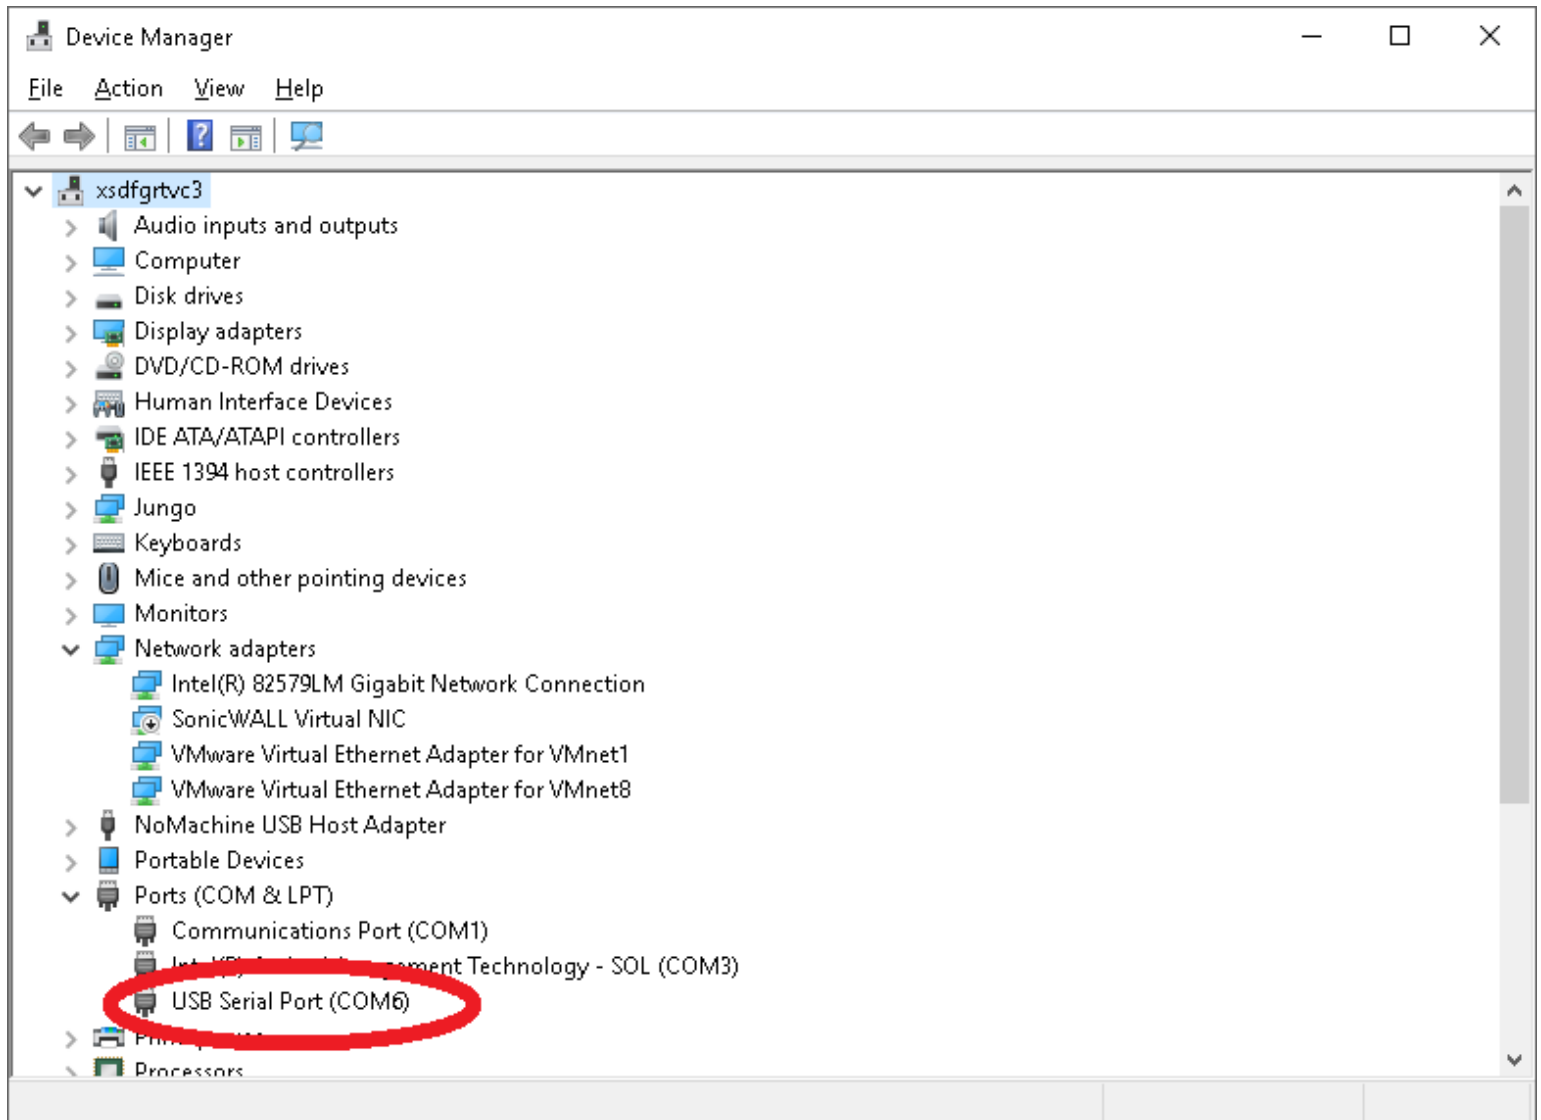
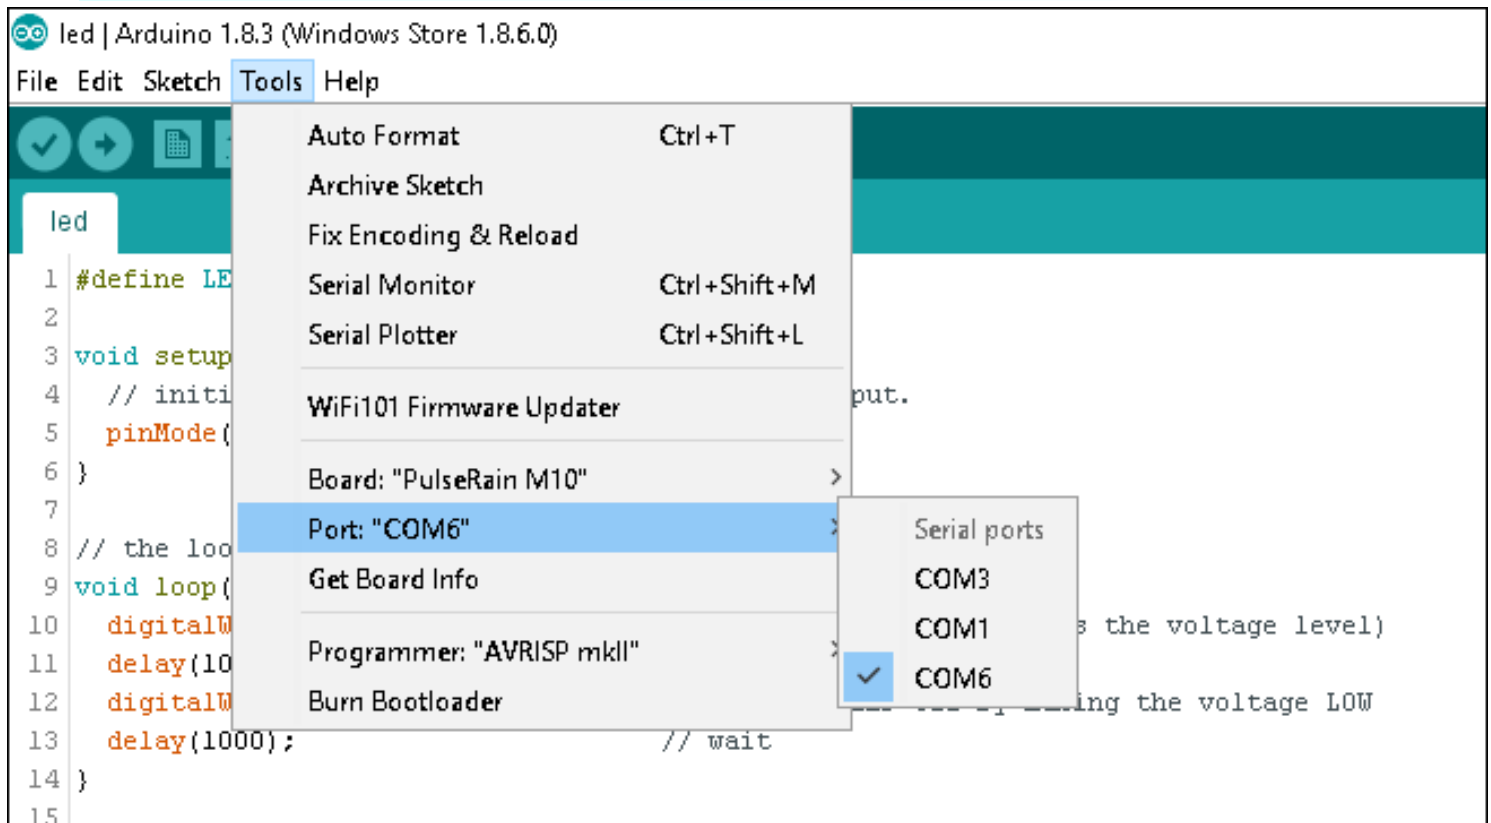

Figure 2-2 USB Serial Port in Windows Device Manager
Figure 2-7 Arduino IDE, Select COM port
- 4) If the Windows driver is successfully installed, you should be able to find a new COM port in Windows Device Manager, as shown in Figure 2-2.
To select the COM port in Arduino IDE, click the menu Tool / Port, as shown in Figure 2-7. The COM port for M10 board is usually the one that has the biggest index number, but not always. If you have trouble determining which COM port corresponds to the M10 board, you can always open the device manager to check, as illustrated in Figure 2-2.